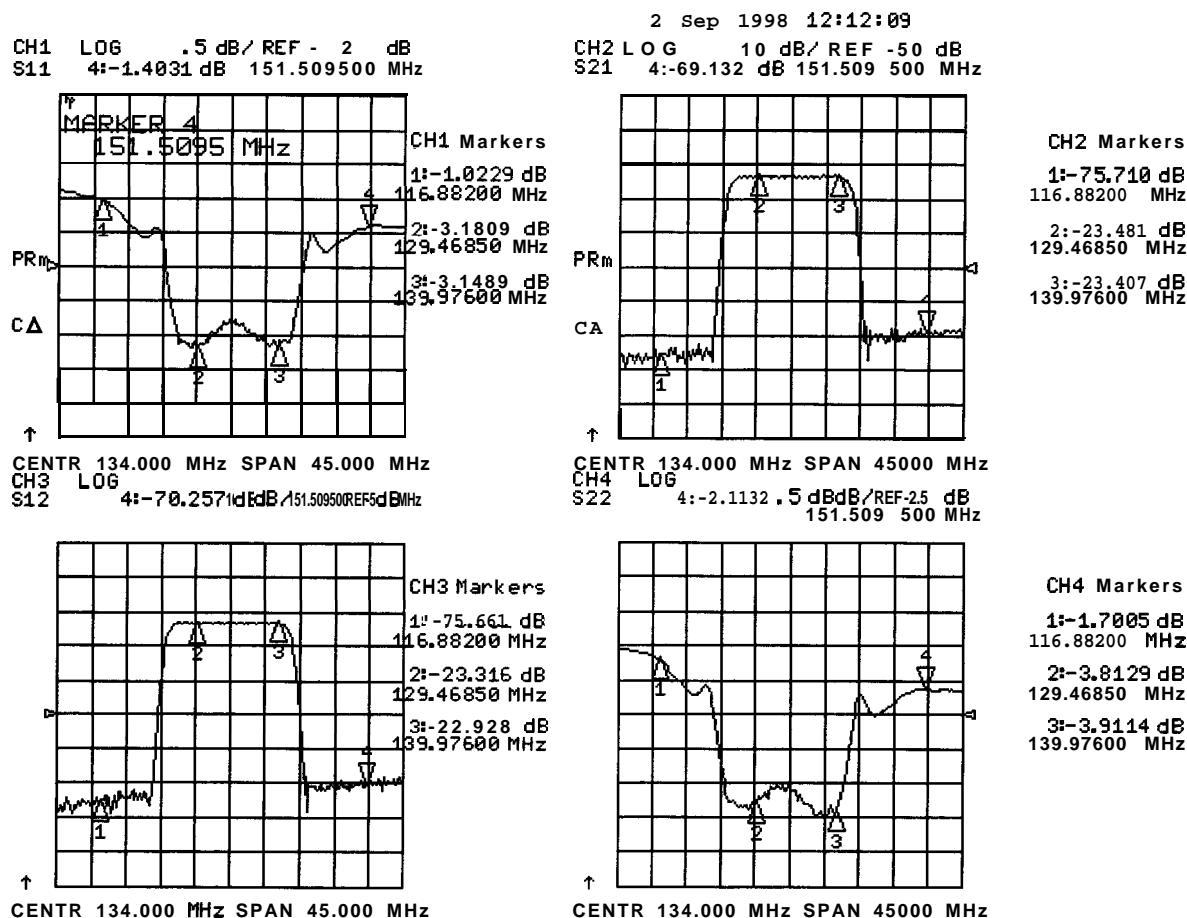

Figure 2-10. Marker Information Moved into the Softkey Menu Area
- The display will be similar to Figure 2-10.